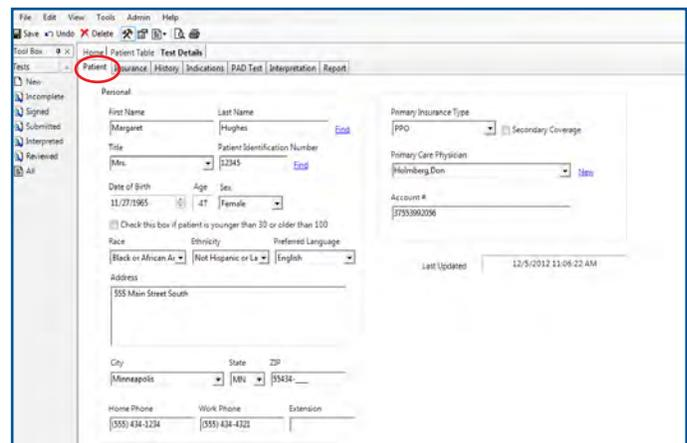

FIGURE 1.5 - Patient Tab
4. Enter patient data (Figure 1.5).